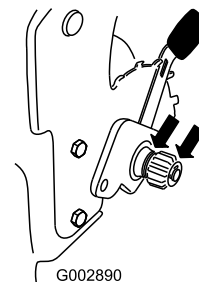

Figure 35
2. Apply a lubricating oil to the inner and outer sides of the gear as shown in Figure 35.